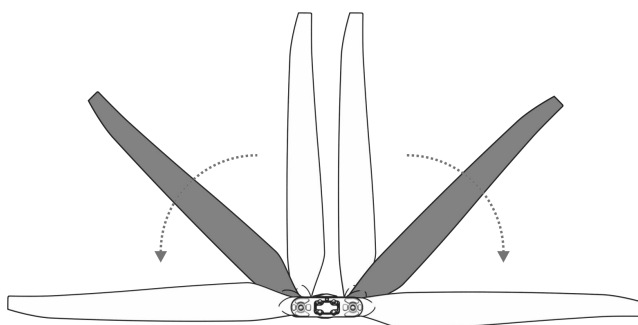

Figure 1-35 Unfold the Propellers
Step 5: Unfold the propellers to 180°, as shown in Figure 1-35.